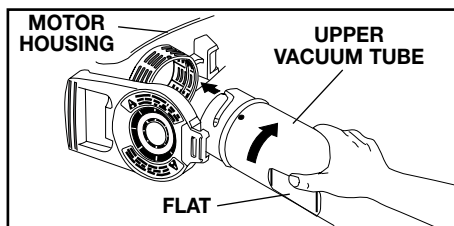

Fig. 7
- Align the arrow on the upper vacuum tube with the arrow on the motor housing (Fig. 7). Note that the flat on the upper vacuum tube faces the vacuum door as you install the tube.
2. Remove the vacuum tubes by reversing the instructions on page 8 (Figs. 7, 8 and 9). The vacuum bag can also be removed by referring to pages 8 and 9 of the Operator's Manual.